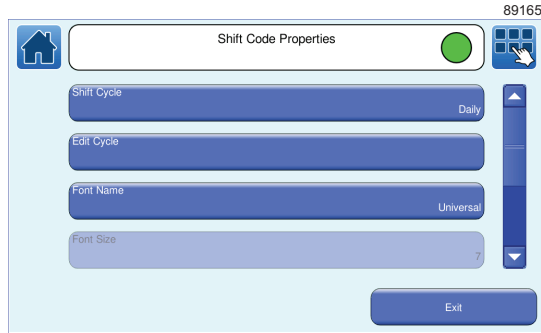

Figure 53. Shift Code Properties screen
- 4 Touch the **Edit Properties** button. The printer displays the **Shift Code Properties** screen (see Figure 53 on page 61).